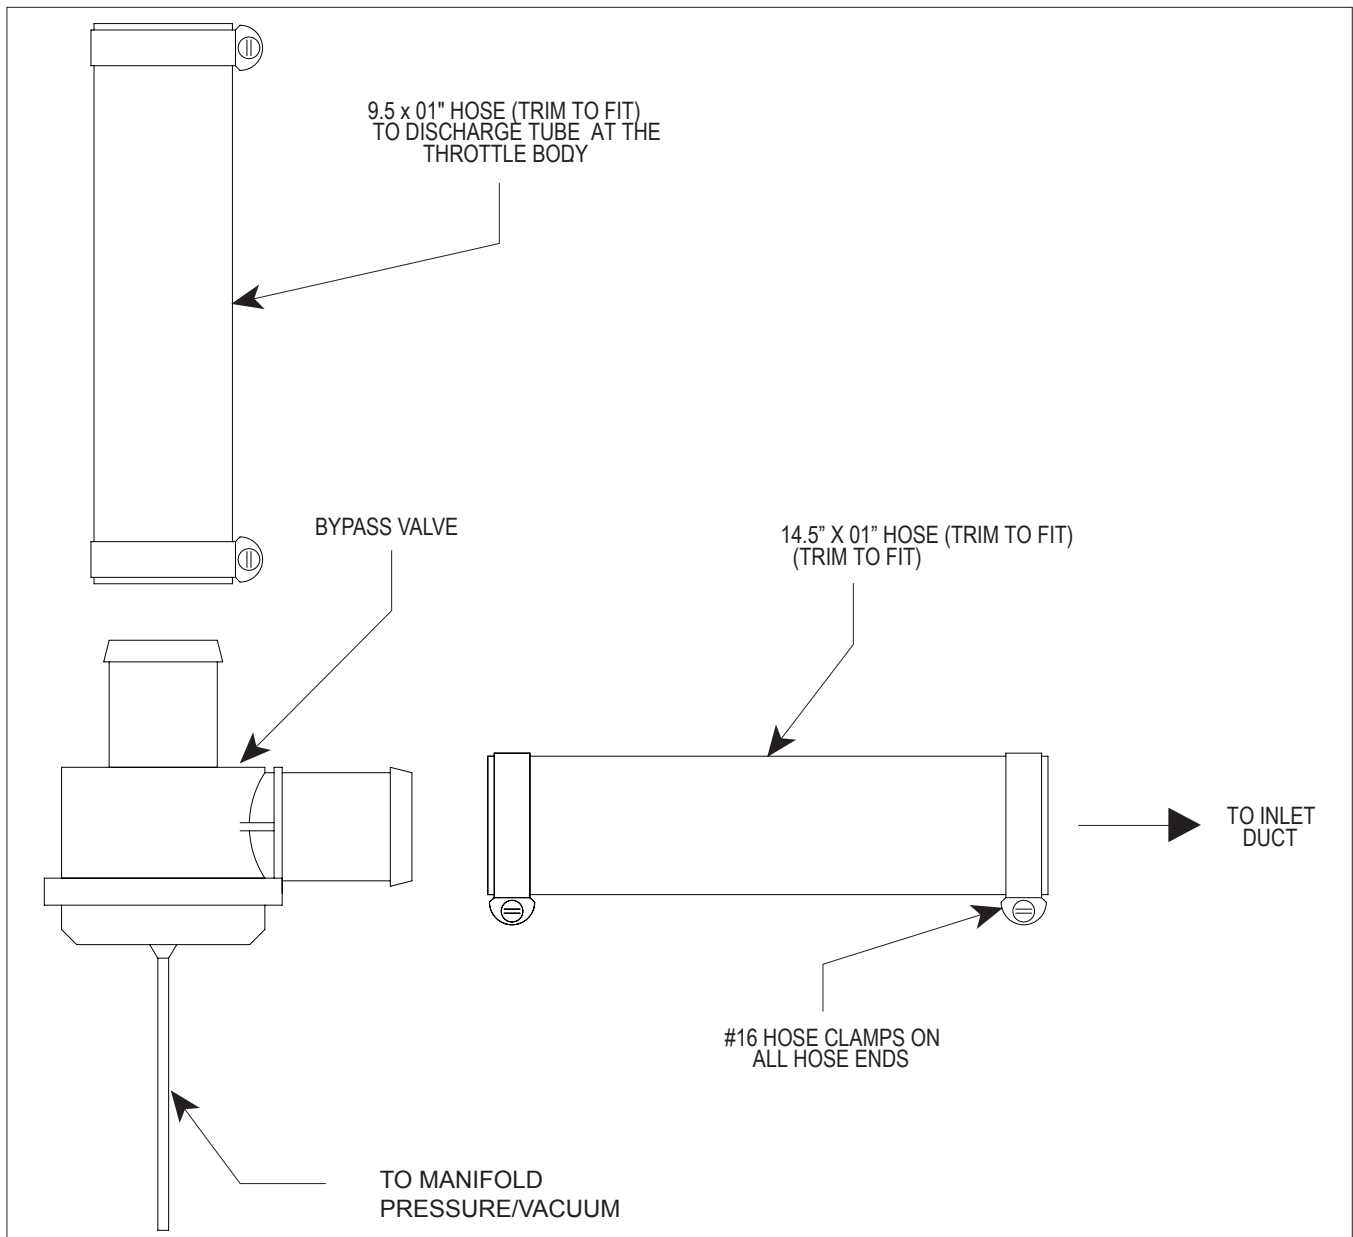

Fig. 8I-a
4. Attach the open end of the 9.5" hose to the by-pass port on the cast discharge duct and secure using a #16 hose clamp. The open end of the 14.5" long hose will be attached to the inlet duct in a later step. (See Fig. 8Ia, 8I-b.)